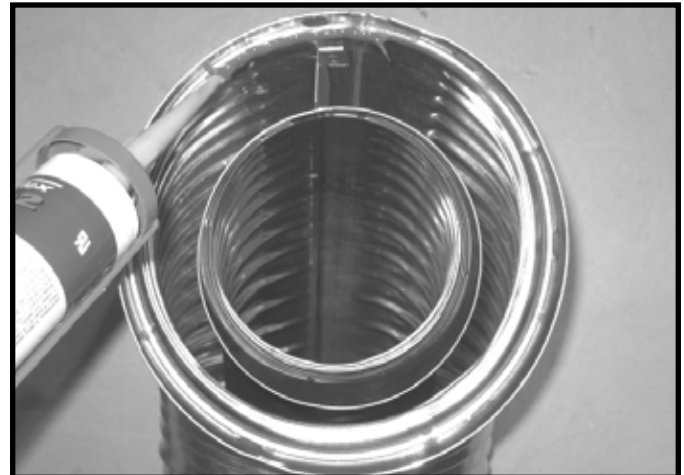

Figure 7.1 High Temperature Silicone Sealant
- Apply a bead of silicone sealant (300° F (149 °C) minimum continuous exposure rating) inside the female outer pipe joint prior to joining sections. See Figure 7.1.